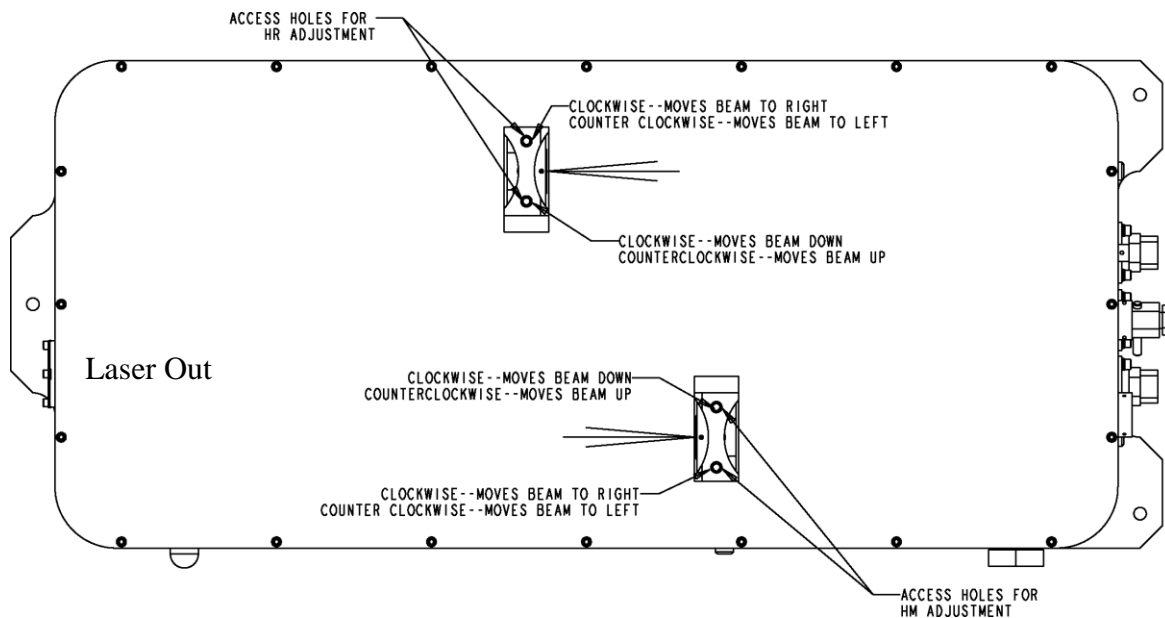

Figure 5-4. Accessible Holes for HR and HM Cavity Mirror Adjustment
- a. Locate the access holes for high-reflection (HR) and harmonic mirrors (HM). Notice the positions of HR and HM mirrors with respect to the direction of the laser output in Figure 5-4
- d. The screws for the adjustments of the vertical tilt angle and the horizontal tilt angle are illustrated in Figure 5-4.